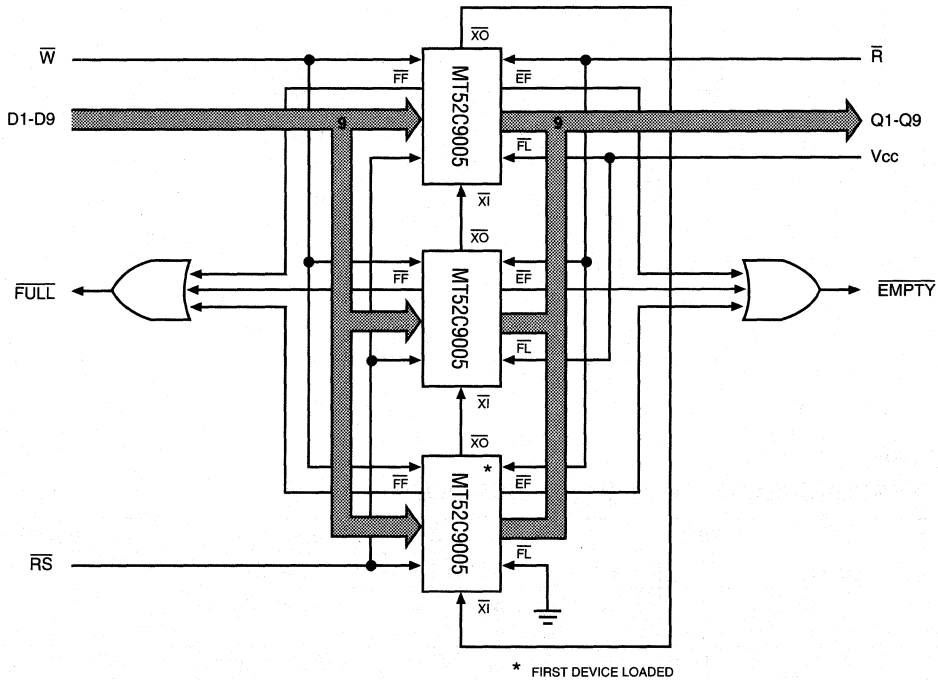

Figure 1
The FIFO word width can be expanded, in increments of 9 bits, using either the stand alone or groups of expanded-depth mode FIFOs. Expanded-width operation is achieved by tying devices together with all control lines (\bar{W} , \bar{R} , etc.) in common. The flags are monitored from one device or one expanded-depth group (Figure 1) when expanding depth and width.
Multiple MT52C9005s may be cascaded to expand the depth of the FIFO buffer. Three pins are used to expand the memory depth, $\bar{X}1$, $\bar{X}0$ /(HF) and $\bar{F}L$ /(RT). Figure 1 illustrates a typical three-device expansion. The DEPTH EXPANSION mode is entered during a RESET cycle, by tying the $\bar{X}0$ /(HF) pin of each device to the $\bar{X}1$ pin of the next device in the chain. The first device to be loaded will have its $\bar{F}L$ /(RT) pin grounded. The remaining devices in the chain will have $\bar{F}L$ /(RT) tied HIGH. During RESET cycle, $\bar{X}0$ /(HF) of each device is held HIGH, disabling reads and